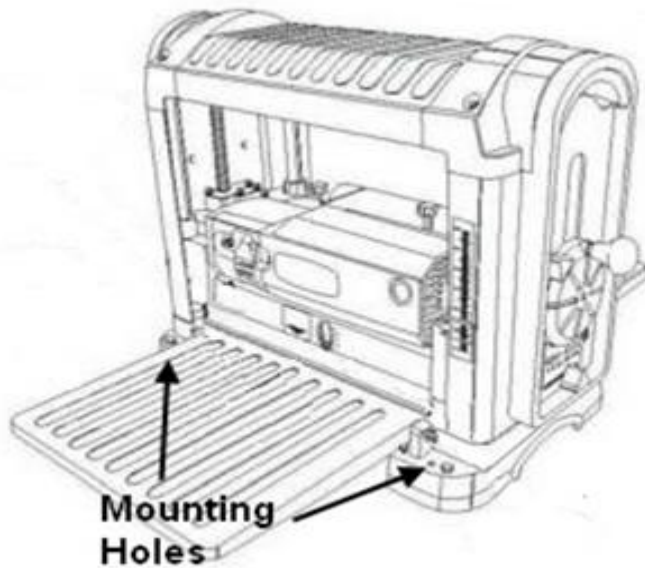

FIG 2
1. Facing the rear of the machine, locate the dust hood on the cutterhead assembly. SEE FIG. 2.